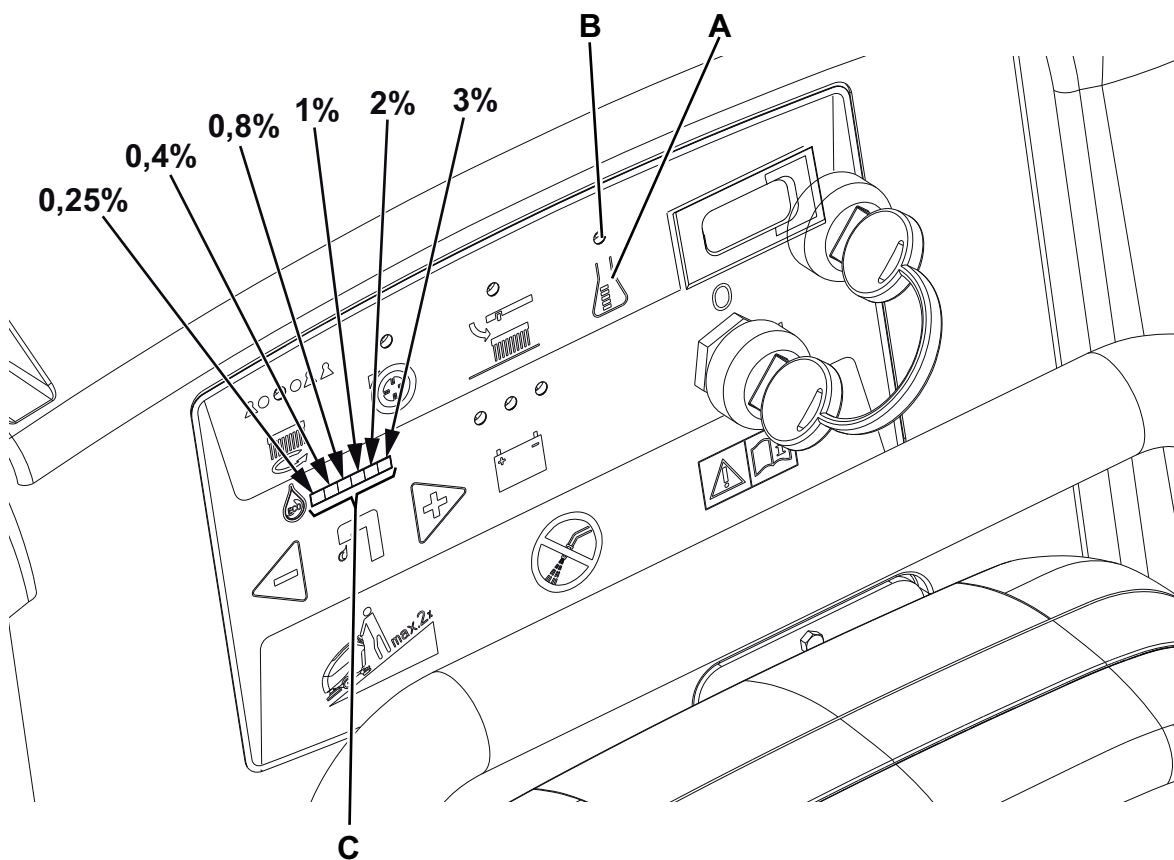

Figure 4
1. Press and turn off the detergent switch (A, Fig. 4) [the warning light (B) must be off].
2. Press the detergent switch (A). 3 seconds after pressing the switch, the indicator (C) turns on, thus indicating the percentage, as shown in the figure.
3. Press and turn off the detergent switch (A, Fig. 4) [the warning light (B) must be off].
4. Press and hold the detergent switch (A) until the warning light (B) flashes (after about 5 seconds).
5. Release and press again the detergent switch (A), to go to the next percentage shown by the indicator (C); repeat the procedure until the desired setting is reached.
6. Wait for the warning light (B) to turn off and for the indicator (C) to show the washing water flow: the new percentage value is now set.